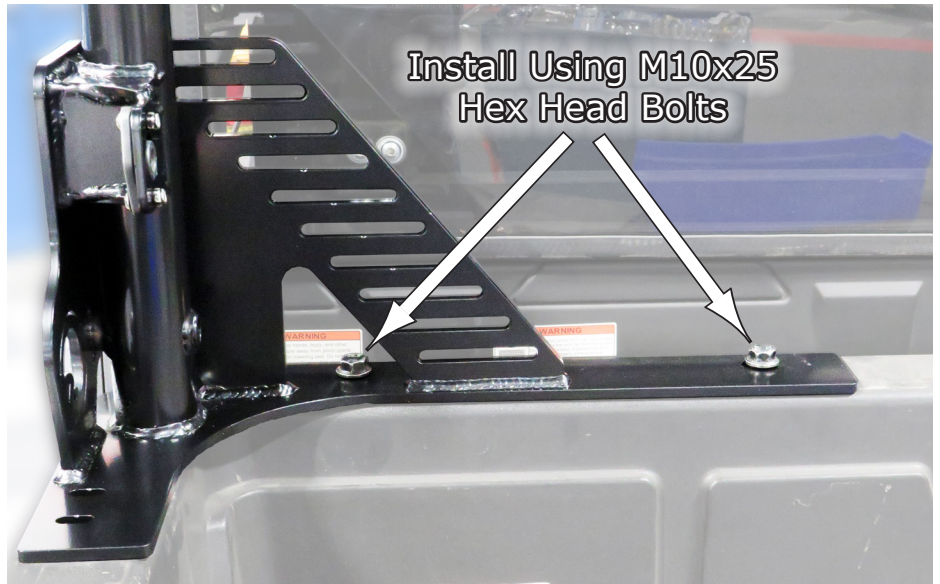

Fig.7
7. Install the Outer Frame to the bed using the **M10x25 Hex Flanged Bolts** provided in your kit. These screw into the **Accessory Anchors** you installed previously. Install the bolts but **DO NOT** tighten these two (2) bolts down yet. Just snug to keep in place for now. See **Fig.7**. Repeat for other side.